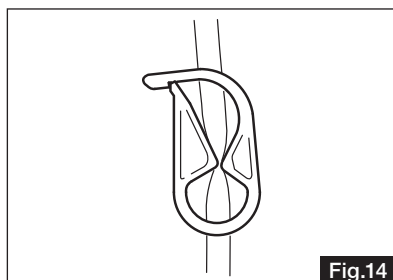

Fig.14
- 1) Close the Tube Clamp located between the Irrigation Tube Needle and the Irrigation Pump (Fig. 14).